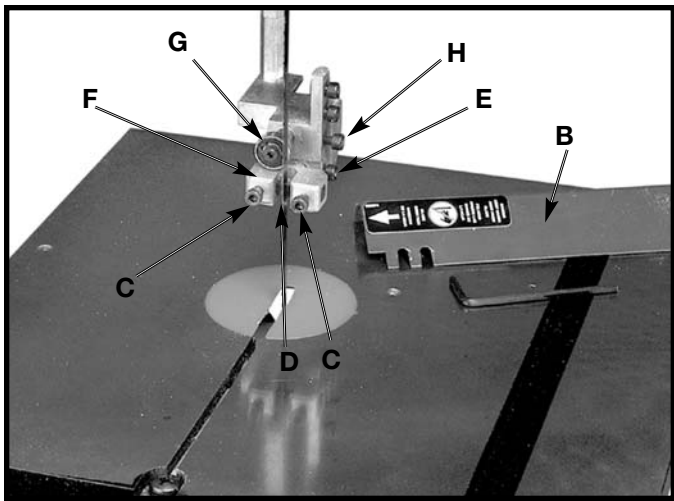
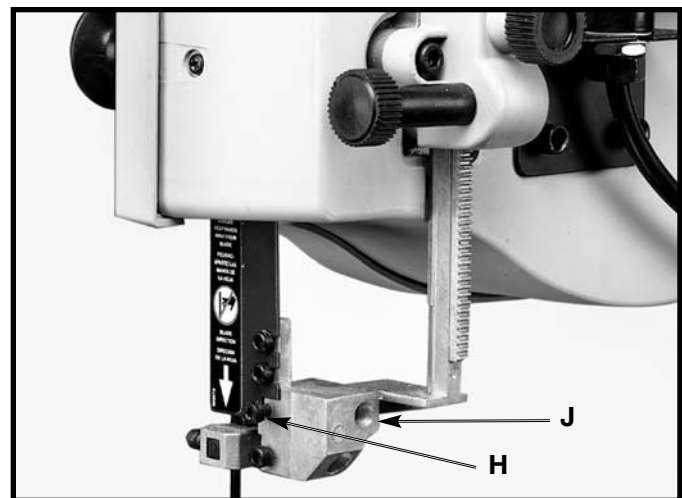

Fig. 27
Fig. 28
**⚠ WARNING UPPER BLADE GUARD (B) FIG. 27 IS SHOWN REMOVED FOR CLARITY. ALWAYS MAKE SURE THE UPPER BLADE GUARD IS INSTALLED AND PROPERLY ADJUSTED BEFORE OPERATING THE BAND SAW.**
1. Loosen the two screws (C) Fig. 27, and adjust the blade guides (D) as close as possible to the sides of the saw blade, being careful not to pinch the blade. Tighten the two screws (C).
2. Loosen screw (E) Fig. 27, and move the guide bracket (F) in or out until the front edge of the guides (D) are just behind the “gullets” of the blade teeth. Tighten screw (E).
3. The upper blade support thrust bearing (G) Fig. 27 prevents the saw blade from being pushed back too far when cutting. The support bearing (G) should be adjusted approximately 1/32" behind the blade. The blade should also overlap the outside diameter of the ball bearing by approximately 1/8". To adjust:
4. Loosen screw (H) Fig. 28, and slide support bearing (G) in or out until it is approximately 1/32" behind the saw blade.
5. The upper blade support bearing (G) Fig. 27, is set on an eccentric shaft. To change position of bearing (G), use a straight screwdriver, rotate shaft (J) Fig. 28, until the blade properly overlaps the support bearing. Then tighten screw (H).